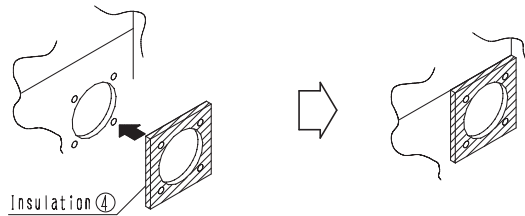

Fig. 2
- Adhere the insulation ④ for opening of unit to the opening, (Fig.2)